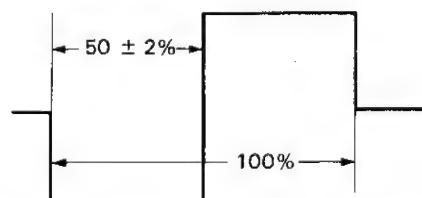

Figure 2-9.
**Adjustment: Digital (A) K2648HE**
3. Connect the oscilloscope to TP2801, then adjust C2804 (Write Clock ADJ) so that the waveform duty becomes 50% (see Fig. 2-9).
4. Connect the oscilloscope to TP2802, then adjust C2810 (Read Clock ADJ) so that the waveform duty becomes 50% (see Fig. 2-9).